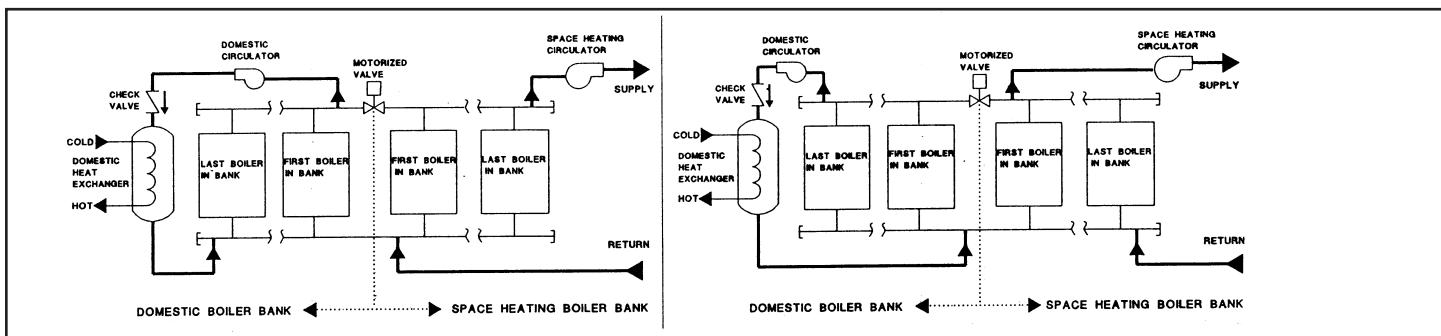

**Figure 5. Primary/Secondary piping of multiple boiler.**
2. Primary/secondary piping may also be used on each individual "module", please see figure 5. In this arrangement the Caravan is no longer a "modular" boiler, it is now a "multiple" boiler system. In a multiple boiler system each module is actually a standalone boiler and each boiler should be equipped with a manual reset hi limit and low water cutoff. Certain local codes also require a minimum distance between each boiler.